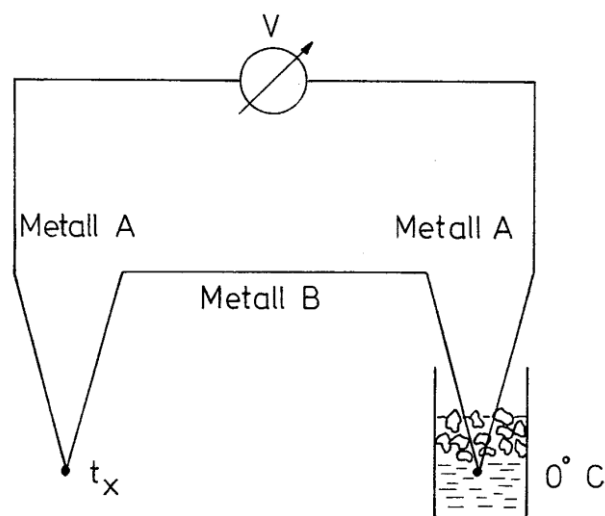

Fig. 2: Temperature measurement with thermocouples
An ABA combination has the advantage of comparing the temperatures between the contact points AB and BA. It is advisable to set one of the contact points, e.g. BA, to the reference temperature 0°C (Fig. 2). The change in thermoelectric voltage with temperature is referred to as the sensitivity or “thermopower” of the thermocouple. It is in the order of 10^{-5} volts per degree.
- 2) Set up the circuit for temperature measurement with the thermocouple and ensure the polarity is correct (see Fig. 2)